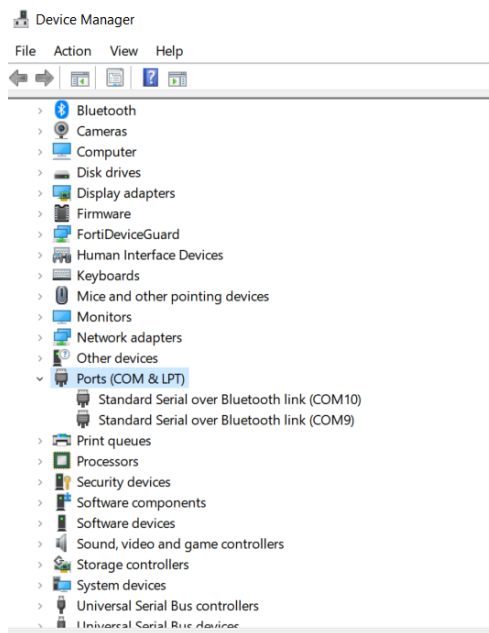

Figure 4.3. Propel Terminal Selection Window
6. In the **Serial port** dropdown list, select the last COM in the list as shown in Figure 4.3.